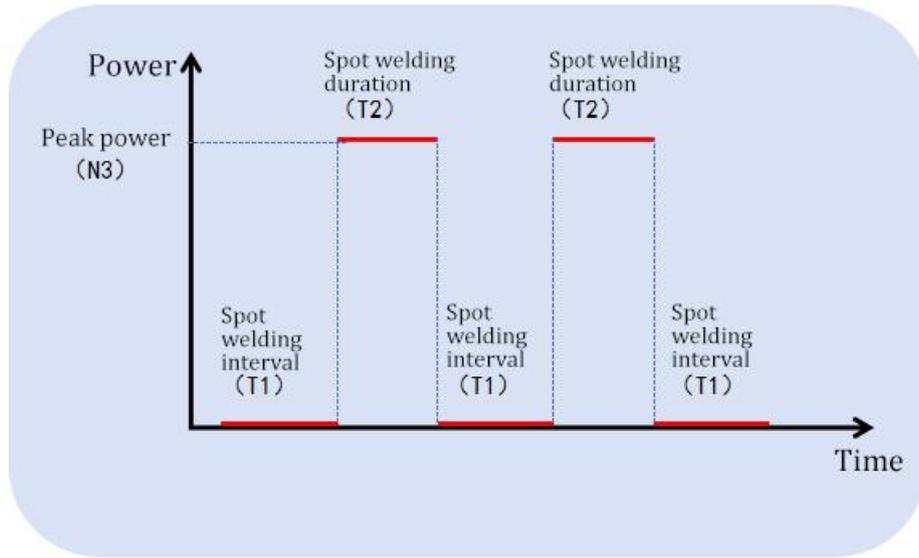

Figure 4.8 Power-time relationship
⑧ [Built in wire feeder driver] : Select according to the actual wire feeder model as described on the process page. Select AE for AMF-AE, C for AMF-C, and other models.
⑨ [Temperature threshold] : Up to 70 °C. When this value is set to 0, no temperature alarm is detected.
⑩ [Alarm Level - High/Low]: Set to low when not in use, depending on the external product Settings.
⑪ [Sport welding type - Intermittent/fish-scale] : [fish-scale] for fish-scale pattern welding, [intermittent] for segmented welding.
⑫ [Spot welding duration][Spot welding interval]: As shown in Figure 4.8, [T1] does not